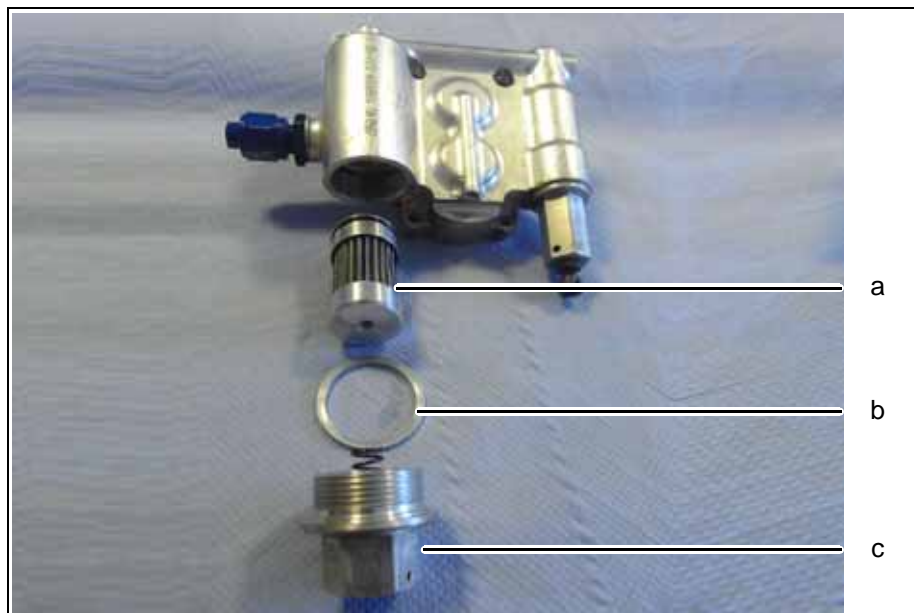

Fig. 6.51 Gearbox oil filter assembling
7. Insert the new gearbox oil filter. For mounting direction see Fig. 6.51 and Fig. 6.52.
◆ Note: Make sure that the new o-ring is correctly mounted to the new oil-filter. The o-ring is part of the new oil filter (Fig. 6.51, item a).
8. Attach the new aluminum sealing ring to the filter cap (see Fig. 6.51, item b).